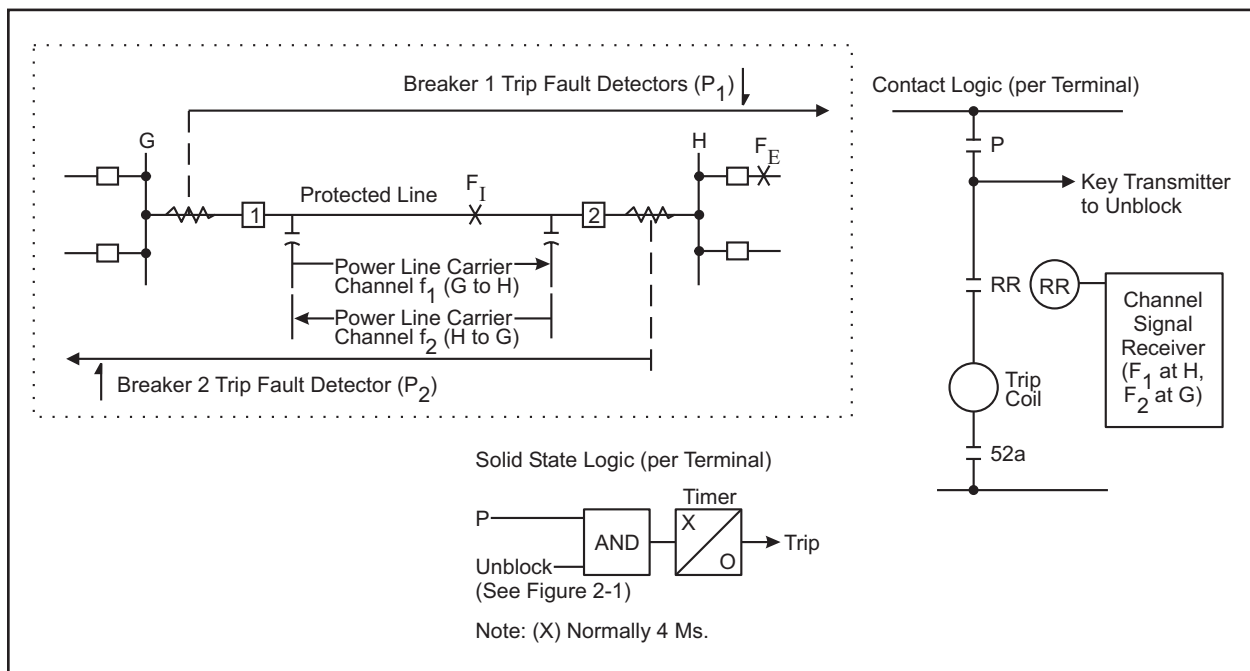

Figure 3–9. Basic Logic Diagrams for Directional Comparison Unblocking
For overreaching systems, the directional phase and ground trip fault detectors (P) must be set to overlap within the transmission line and not overreach any terminals (see Figure 3–10).